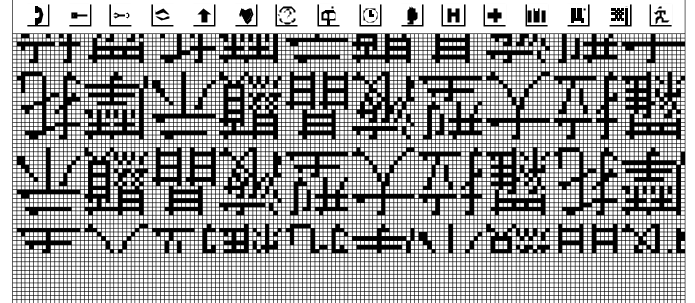

Figure 8e: Vertical scrolling with writing 07h to scrolling register
- 4) Enable vertical scrolling command with scrolling value of 07h shown in Figure 8e,